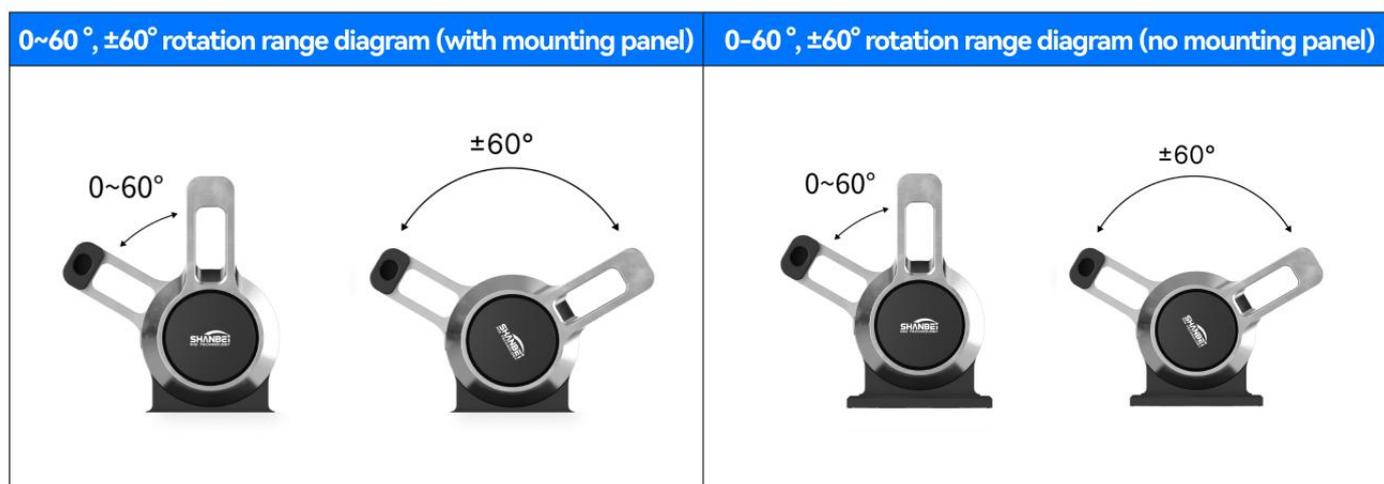

Figure 2.4
3. The rotation range of the handle can be $\pm 60^\circ$, $0 \sim 60^\circ$, the default is $\pm 60^\circ$, as shown in Figure 2.4.